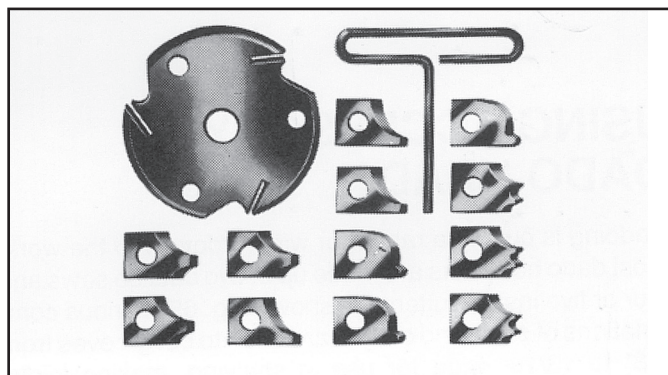

FIG. 71
The molding head consists of a cutterhead that can be fitted with various shapes of steel cutters (Fig. 71). Each of the three knives in a set is fitted into a groove in the cutterhead and securely clamped with a screw. Keep the knife grooves free of sawdust to allow the cutter to seat properly.
3. Position the wood-facing over the cutterhead with the cutterhead below the surface of the table. Turn the saw on and raise the cutterhead. The cutterhead will cut its own groove in the wood-facing. Fig. 71 shows a typical molding operation.